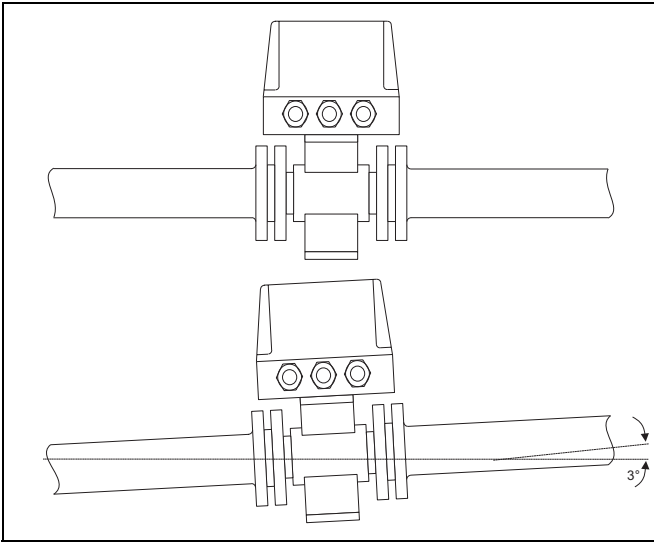

Fig. 3
- a) **horizontal** pipelines the cable connectors (for the interconnections) must **point towards the operator** for best display readability (Fig. 3).
The flowmeter primary must be installed so that the meter tube is always completely filled with fluid and cannot drain. A slight upward slope of approx. 3 % is desirable to prevent gas build up within the flowmeter (Fig. 3).